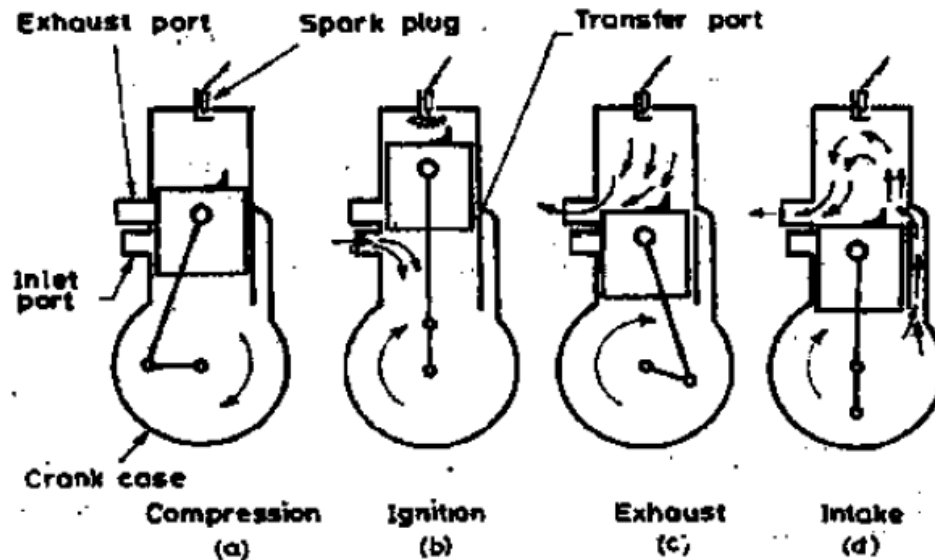

Figure: 7 Working of Two stroke Petrol Engine
The principle of two-stroke cycle petrol engine is shown in Figure 7. Its two strokes are described as follows:
vacuum is created in the crankcase, and a new charge is drawn into the crank case through the uncovered inlet port. The exhaust port and transfer port are covered when the piston is at the top dead centre position as shown in Figure 7 (b). The compressed charge is ignited in the combustion chamber by a spark provided by the spark plug.
**Downward Stroke:** As soon as the charge is ignited, the hot gases force the piston to move downwards, rotating the crankshaft, thus doing the useful work. During this stroke the inlet port is covered by the piston and the new charge is compressed in the crank case as shown in the Figure 7(c) Further downward movement of the piston uncovers first the exhaust port and then the transfer port as shown in Figure 7 (d). The burnt gases escape through the exhaust port. As soon as the transfer port opens, the compressed charge from the crankcase flows into the cylinder. The charge is deflected upwards by the hump provided on the head of the piston and pushes out most of the exhaust gases. It may be noted that the incoming air-petrol mixture helps the removal of burnt gases from the engine cylinder. If in case these exhaust gases do not leave the cylinder, the fresh charge gets diluted and efficiency of the engine will decrease. The cycle of events is then repeated.